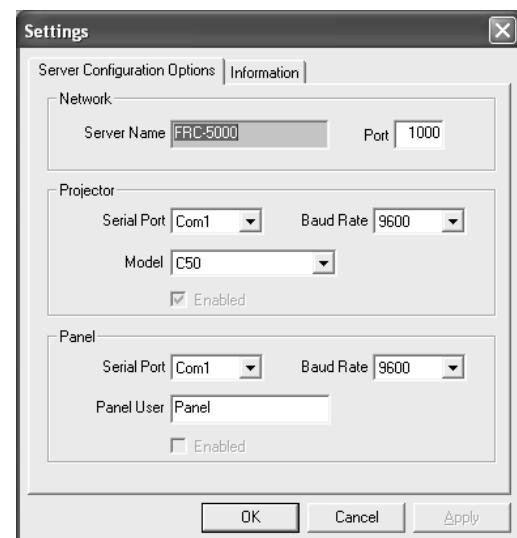

Figure 7.3. **WallServer Server Configuration Options window (sample)**
- 3) Make modifications in the **Settings** window as necessary and click **OK**. (Figure 7.3.)